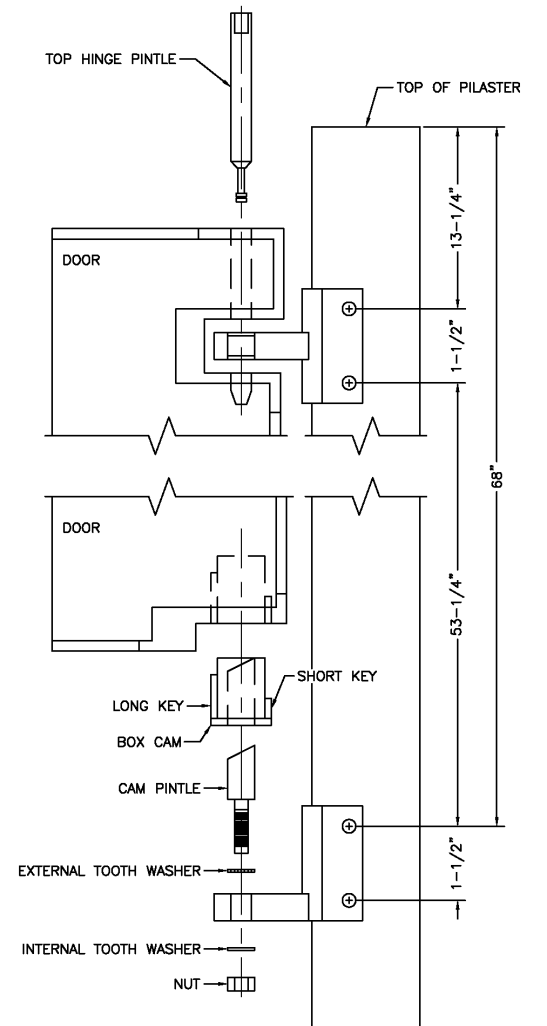

Figure 9A
- Attach top and bottom hinge brackets to pilaster with thru bolts (4-total). If pilasters were not pre-drilled at the factory, use dimensions shown in Figure 9A as a drilling ($\frac{1}{4}$ " bit) guide.
- Assemble cam pintle, external tooth washer, internal tooth washer, and $\frac{1}{2}$ " hex nut to the bottom hinge bracket as shown in Figure 9A and hand-tighten (to be wrench-tightened later).
- Insert box cam into bottom door casting as shown in Figure 9A, with short key pointing toward hinge side (edge) of door.
- Set door onto bottom hinge cam pintle. Bring door up so the top hinge casting is in line with the top hinge bracket as shown in Figure 9A. Insert the top hinge pintle and tap it down so it's flush with the top of the door.